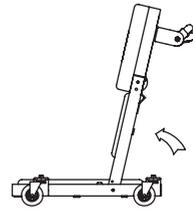

Figure 1 – Low-seat configuration
1. Locate and unlock spring-loaded Locking Pin for middle section by pulling out until disengaged. Then rotate Head Frame and Middle Frame upward as shown in Fig. 1 until the Locking Pin can engage hole in Creeper Seat locking plate (ensure Lock Pin is fully engaged). This is the low seat configuration.